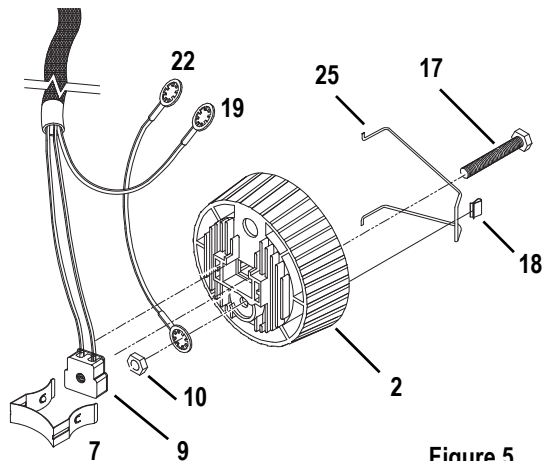

Figure 5
Step 12: Insert the bolt (17) through the light baffle socket casting (2). See Figure 5.
Step 13: Install the green ground wire assemblies (19 and 22) on the bolt (17) with the prongs on the crimped connectors toward the casting. Run both wires through the indent in the lip around the bolt hole. Secure with nut (10) and tighten securely (60 inch pounds).
Step 14: Place the socket assembly (9) into the light baffle socket casting (2). Be sure it is well seated.
Step 15: Install the lamp retainer spring (7). The lamp retainer spring secures the socket. Insert the spring one end at a time, making sure the rectangular slot in each side of the spring seats on the corresponding tab in the casting.